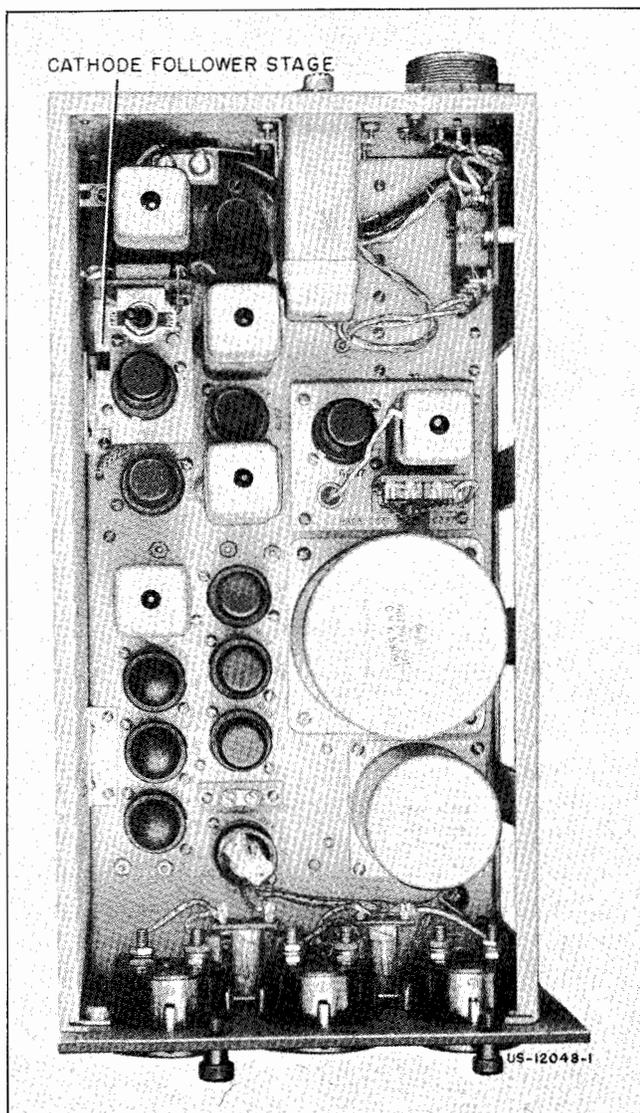

Figure 1-6. RBB/RBC IF/AF Section Chassis, Top View
b. IF/AF SECTION.—The if/af units are identical for the RBB and RBC equipments except for the audio filter unit. Figures 1-6 and 1-7 are the top and bottom chassis views of this section. The if/af unit contains a three-stage variable selectivity i-f amplifier, second detector, noise limiter, audio band-pass filter, cw oscillator, automatic gain control, silencer circuit, and an audio amplifier.
frequency shift converter or a panoramic adaptor to the RBB/RBC receivers. This stage, shown on Figure 1-6, contains a filament switch for controlling its output.